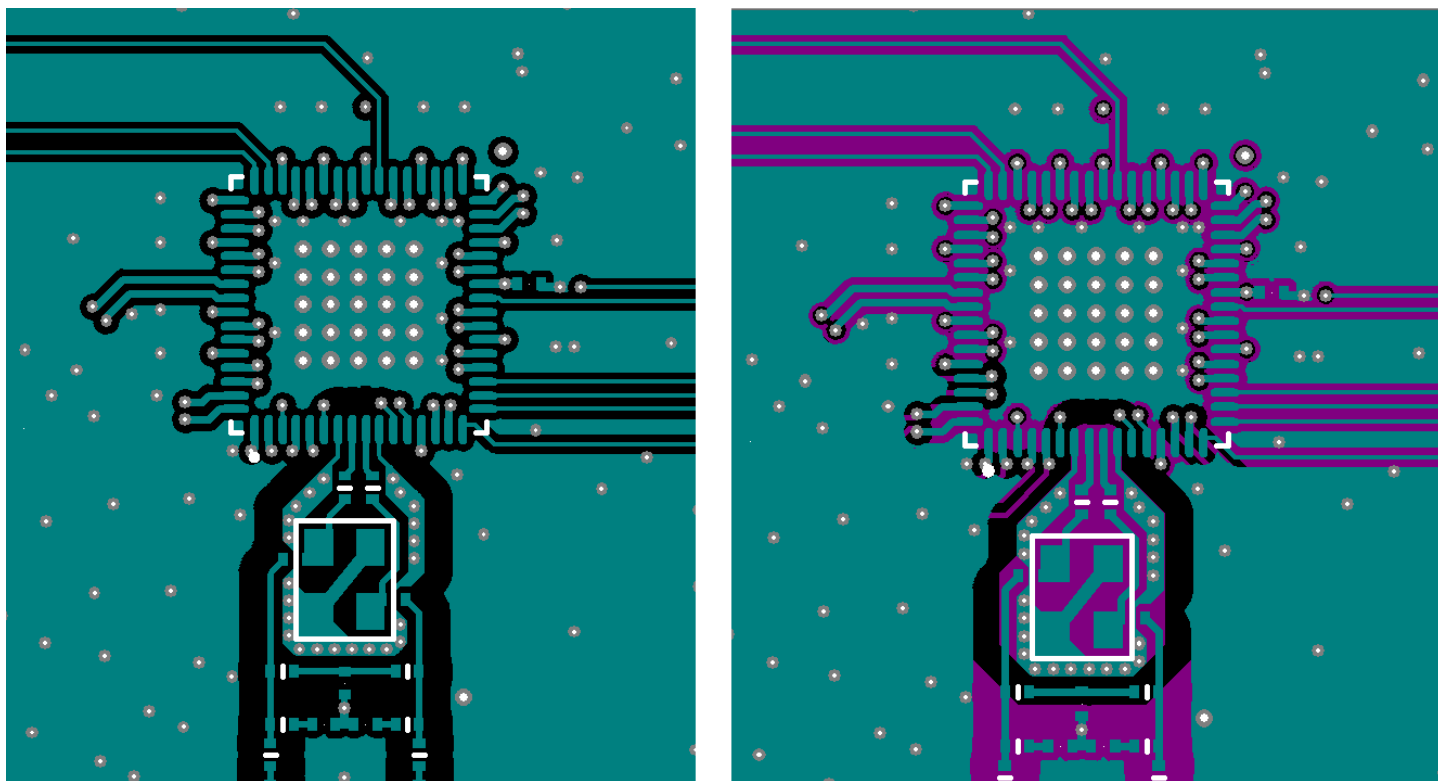
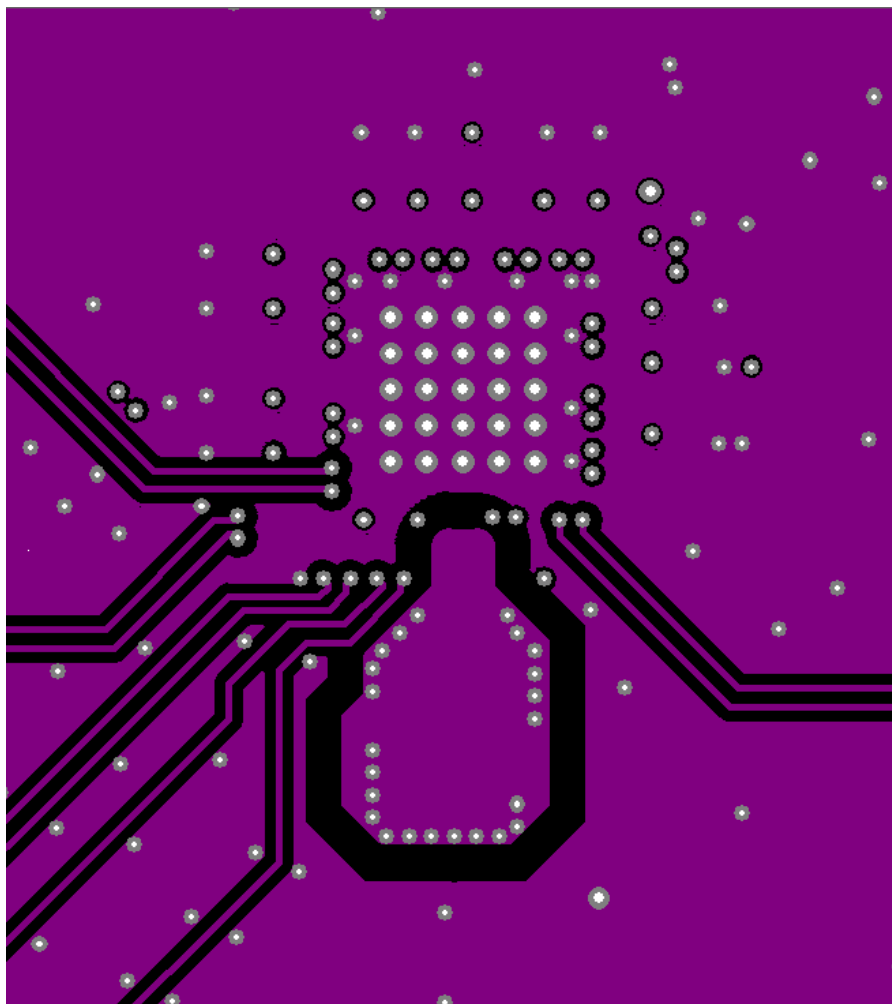

Figure 12.1. 64-pin Si5397/96 Crystal Layout Recommendations Top Layer (Layer 1)
Figure 12.2. Zoom View Crystal Shield Layer, Below the Top Layer (Layer 2)
3. Connect the crystal's GND pins to the DUT's X1 and X2 pins via a local crystal GND shield placed around and under the crystal. See Figure 12.1 64-pin Si5397/96 Crystal Layout Recommendations Top Layer \(Layer 1\) on page 75 at the bottom left for an illustration of how to create a crystal GND shield by placing vias connecting the top layer traces to the shield layer underneath. Note that a zoom view of the crystal shield layer on the next layer down is shown in Figure 12.2 Zoom View Crystal Shield Layer, Below the Top Layer \(Layer 2\) on page 76.
Figure 12.2 Zoom View Crystal Shield Layer, Below the Top Layer (Layer 2) on page 76 shows the layer that implements the shield underneath the crystal. The shield extends underneath the entire crystal and the X1 and X2 pins. This layer also has the clock input pins. The clock input pins go to layer 2 using vias to avoid crosstalk. As soon as the clock inputs are on layer 2, they have a ground shield above, below, and on the sides for protection.